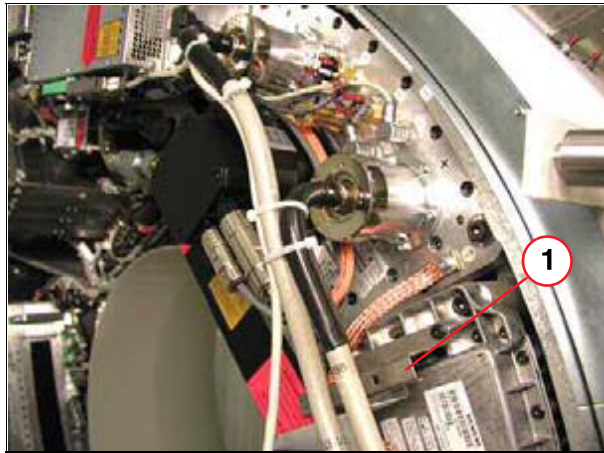

Fig. 9: HV cable holding bracket
4. If a cable holding bracket is installed on the HV tank (Fig. 9 / p. 23) Note its orientation and remove it from the installed HV tank.